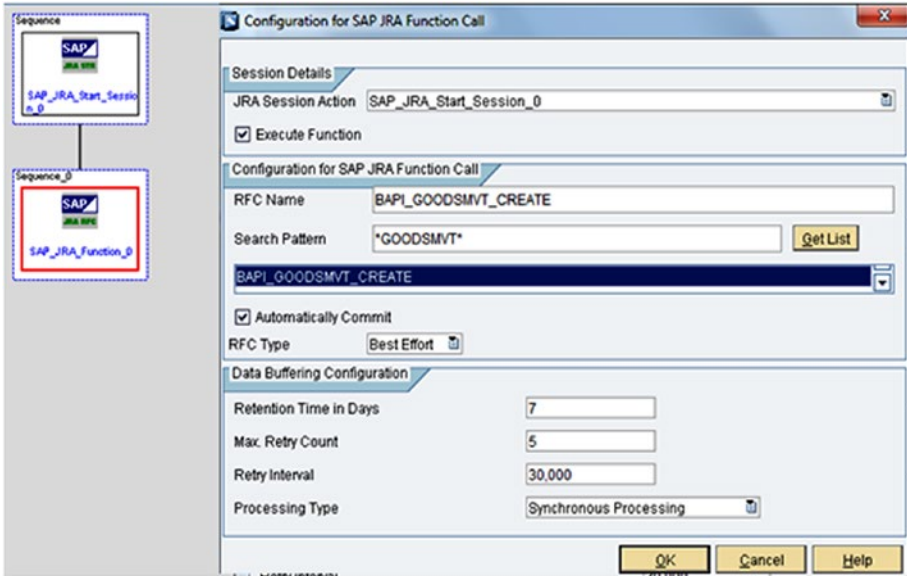

Figure 7-164. JRA function action block configuration
- SAP JRA Function Call:* This is the action to call RFC. It is different from the SAP JCo function action block (which is explained later), as JRA is more secure and follows a user-specific encryption algorithm. See Figure 7-164.